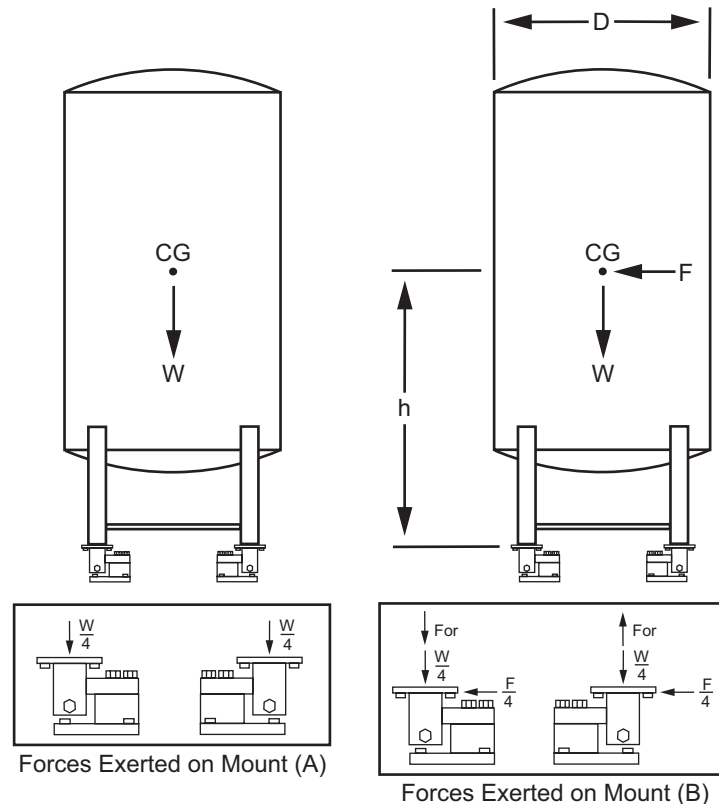

Figure 17-1. External Forces on a Weigh Vessel
In general, these forces act horizontally at the center of gravity (CG) of the weigh vessel. Figure 17-1-A illustrates a four-legged vertical cylindrical vessel and the forces acting on it in the absence of wind or seismic forces.  $W$  is the vessel's weight (an empty and full vessel should be considered separately, as either one may be the limiting case), and it acts through the vessel's center of gravity. Assuming that the four legs are arranged symmetrically, then each leg will exert a force of  $1/4W$  on each mount.
Figure 17-1-B illustrates the same vessel with the addition of a horizontal force  $F$  (the result of wind or seismic activity). The vessel exerts a horizontal force of  $1/4F$  on each load cell mount. Also, there is an additional force of  $F_{0T}$  acting on the left-hand side load cell mounts, which means that each is now carrying a load of  $1/4W + F_{0T}$ . On the right-hand side load cell mounts, a force of  $F_{0T}$  is also induced as a result of  $F$ , however, this force is in the opposite direction to the existing  $1/4W$  and the total force here is reduced to  $1/4W - F_{0T}$ . Therefore, the load is being transferred from the mounts on one side of the vessel to those on the other. The load cell capacity selected must be capable of withstanding this additional force for the extremes of wind or seismic forces expected. If  $F$  was increased to where  $F_{0T}$  equaled  $W/4$  then there would be zero load on the right hand mounts and the load would have doubled to  $W/2$  on the left-hand mounts. Further increase in  $F$  will cause the vessel to lift up on the right-hand mounts and may, in the extreme case, cause the vessel to tip.
The relationship between  $F_{0T}$  and  $F$  may be stated as follows for the vessel shown in Figure 17-1: